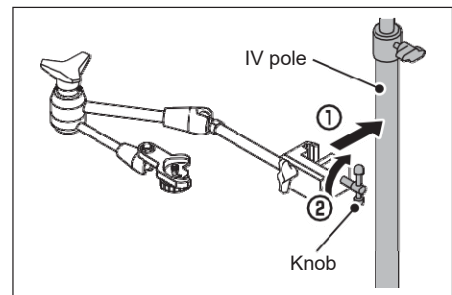

Figure 1-26
2. **Attach the Fast Clamp Arm to the IV pole of the Cart (Figure 1-26 a), and secure it with the knob. (Figure 1-26 b)**